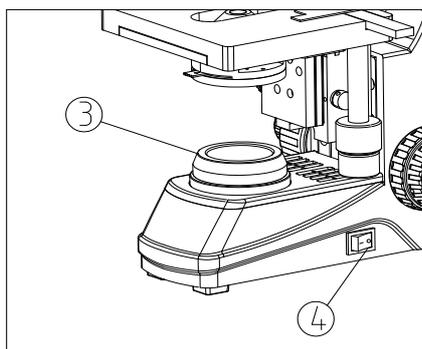

Fig. 2
4. When working, the surface of condenser will be very hot. Make sure there is enough room for the heat dissipating around the condenser ③ (see Fig. 2).
6. For safety, make sure the power switch ④ is at “0” (off) and power it off before replacing the bulb or fuse, and wait until the lamp cools down (see Fig. 2).